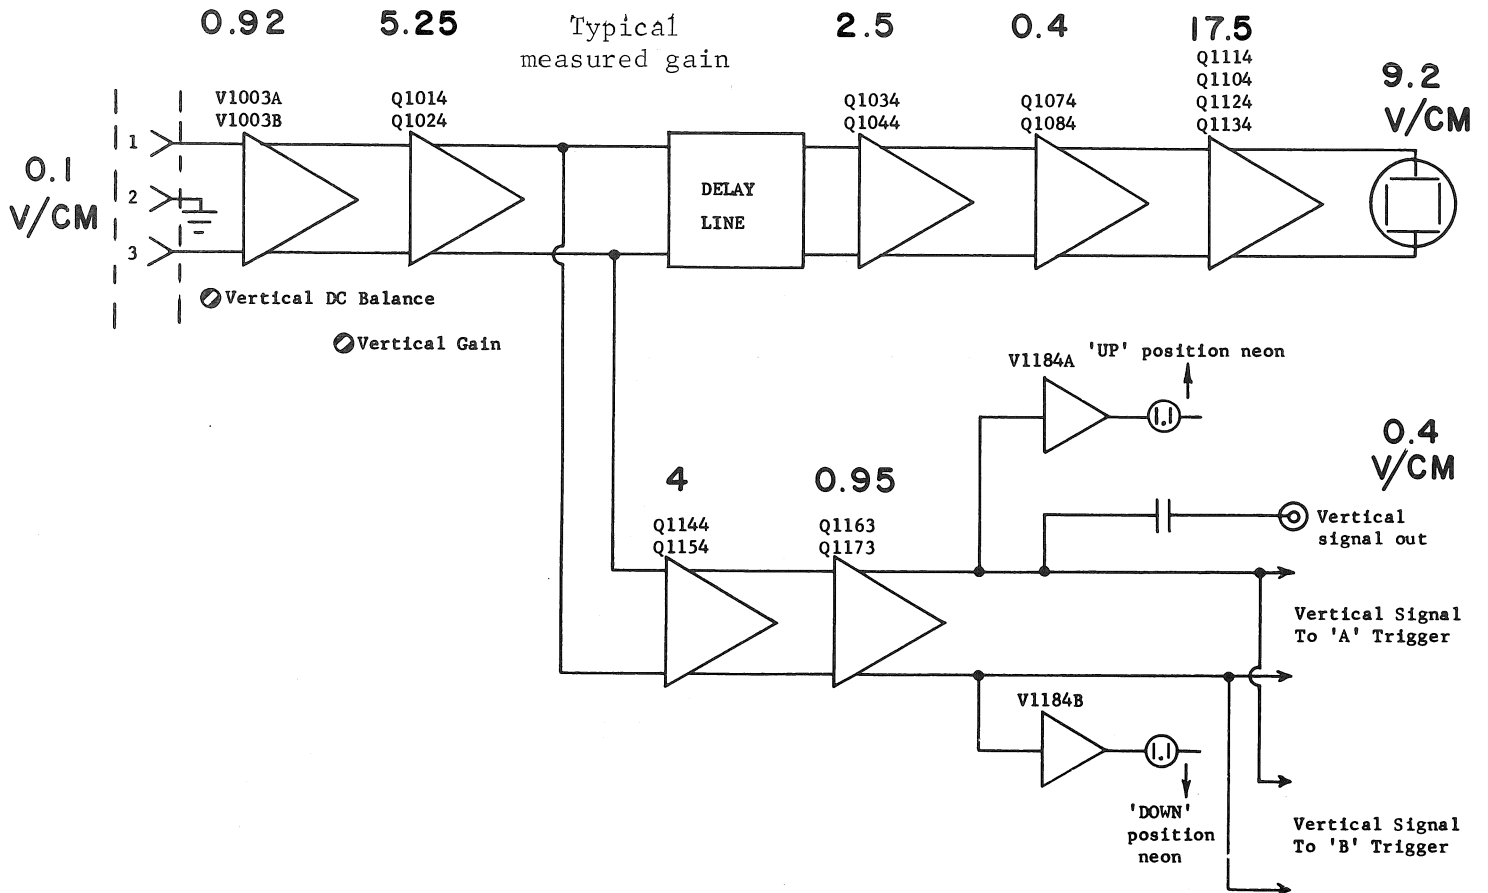

Figure 1-1
1. See vertical amplifier stage gain diagram, Fig. 1-1. Five stages plus delay line converts high impedance input signal to high impedance output signal to drive the CRT.